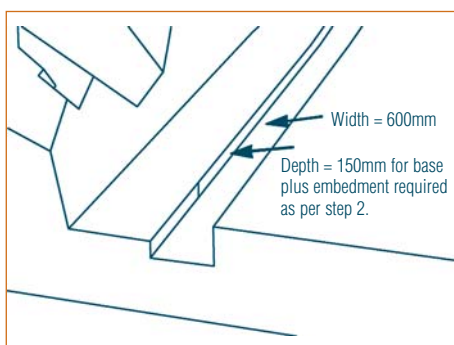

Figure 3: Excavate the Base Trench
- Excavate base trench at the wall location. Make sure the trench is level and to the proper depth (Figure 3).